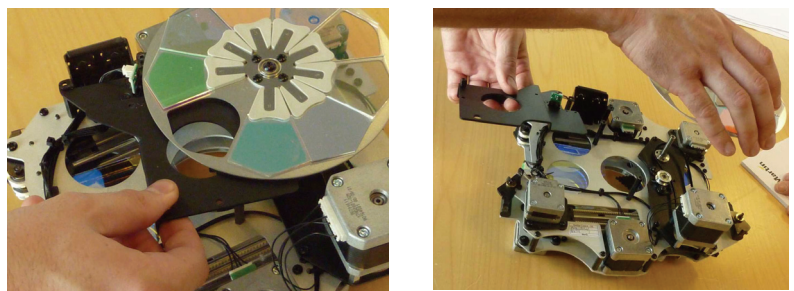

Figure 7
8. See Figure 7. Move the inner aperture plate to one side to give clearance for the color wheel pulley, then lift the color wheel and pulley out of the module.